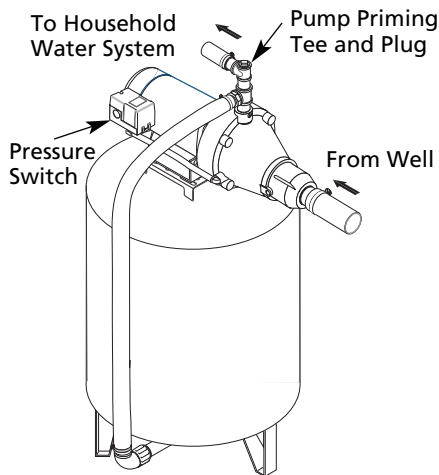

Figure 6 – Pre-charged Tank Connections
(see Figure 6)
1. Install two tees in the pump discharge port (see Figure 6). The pipe size must be at least as large as the discharge port.